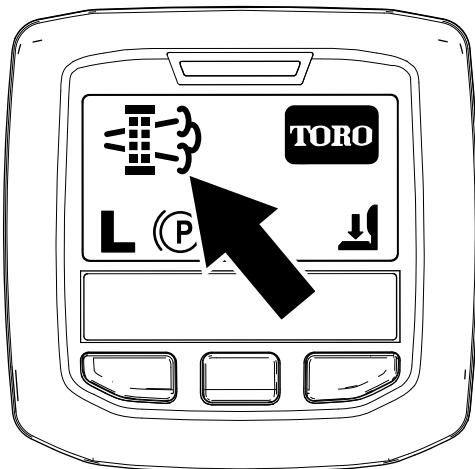

Figure 69
- When the engine computer requests either a parked regeneration or a recovery regeneration, the regeneration request icon (Figure 69) displays in the InfoCenter.